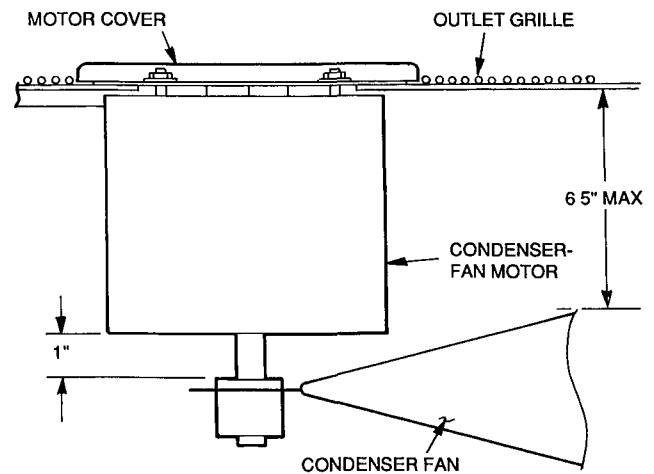

Fig. 15 — Condenser-Fan Adjustment
Condenser-Fan Adjustment (Fig. 15)
3. Adjust fan height as shown in Fig. 15.